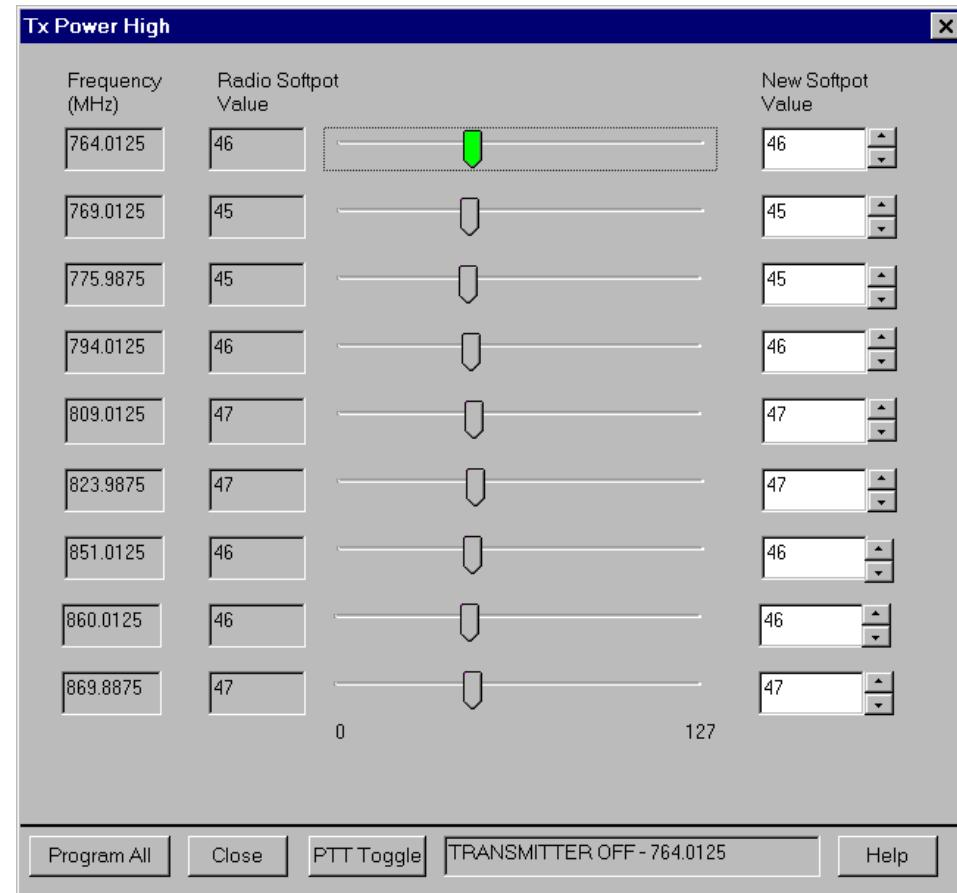

Figure 10. Transmit Power Alignment Screen (Typical)
1. Select the **TX Power** alignment screen. The screen will indicate the transmit frequencies to be used. See Figure 10.